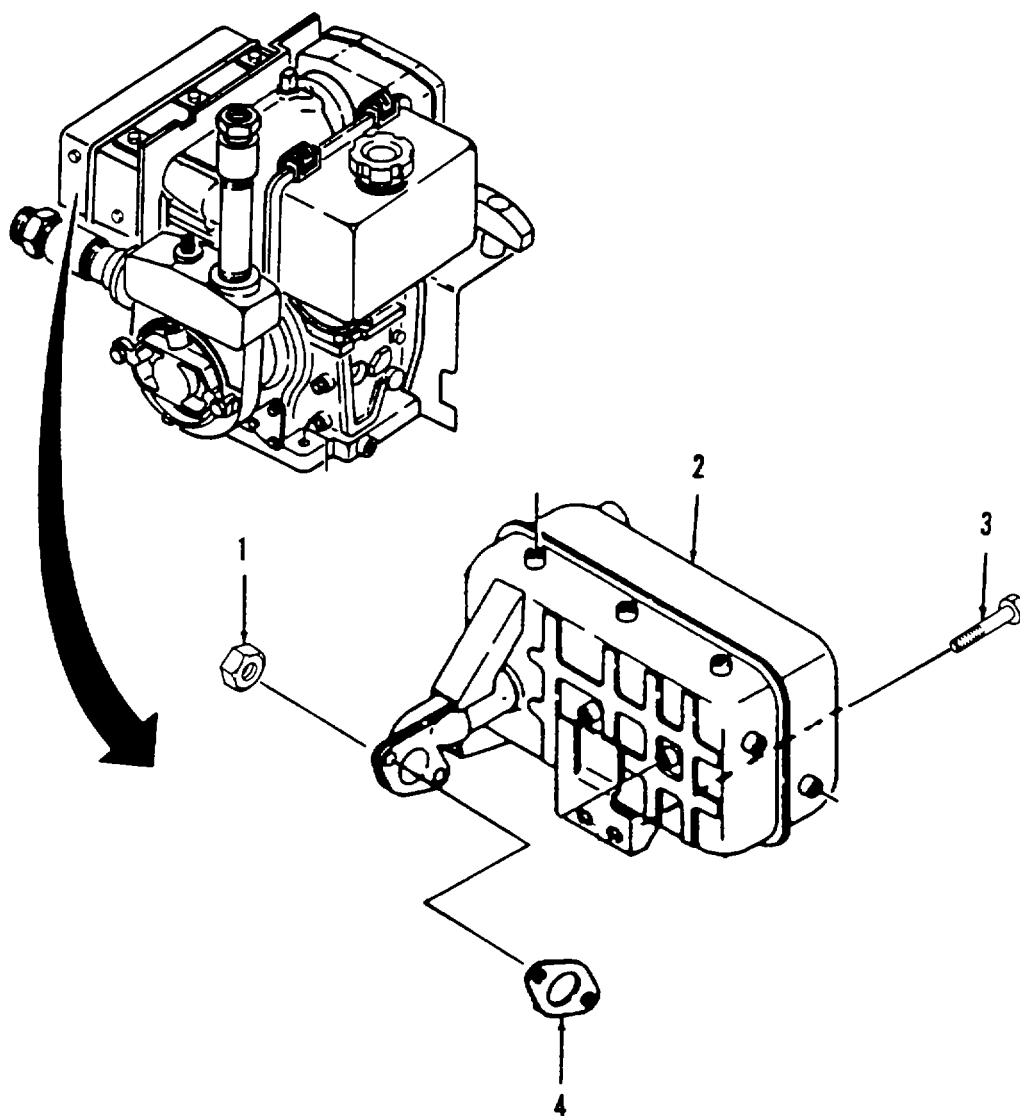

Figure 4-24. Exhaust Silencer Repair and Replacement.
a. Removal (Refer to Figure 4-24).
- (1) Remove two hex head nuts (1) securing the exhaust silencer (2) to studs on the exhaust port of the engine.
- (2) Remove two hex head screws (3) securing the bracket on exhaust silencer (2) to the rear of the engine.
- (3) Lift exhaust silencer (2) and gasket (4) from the studs. Discard gasket.